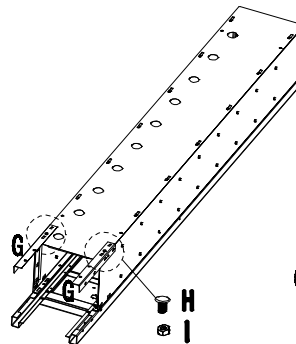
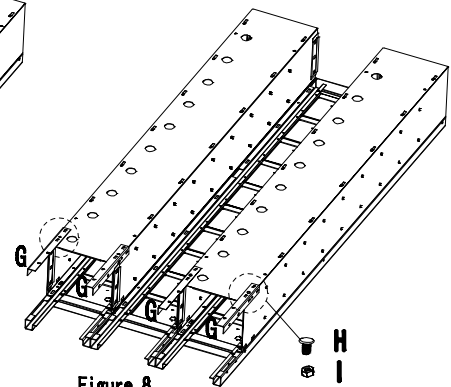

Figure 7
Figure 8
Assembly for the Legs (G) of both the the 1 Wide Cell Phone Locker (Figure 7) and 3 Wide Cell Phone Locker (Figure 8): Insert the tabs of the legs into the bottom rectangular openings located on the side and back of each of the units. Lightly tap the bottom of the legs upward with a rubber mallet until the tabs are fully seated into the rectangular openings. Once the tabs are fully seated into the slots use screws (H) and nuts (I) to fasten the legs.